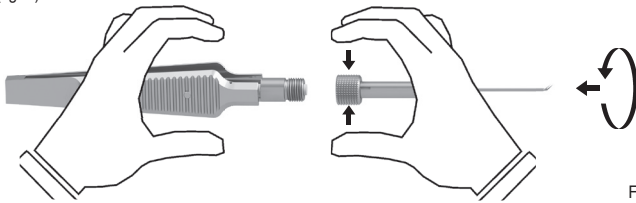

Fig. 2
- Hold front part with scissors and handle as shown in fig. 2.
- Assemble front part with scissors and handle and turn the knurled screw all the way to the stop (fig. 2).
- Disassemble the front part with scissors from the handle in reverse order (fig. 2).
- Assemble front part with scissors and handle acc. to fig. 2.